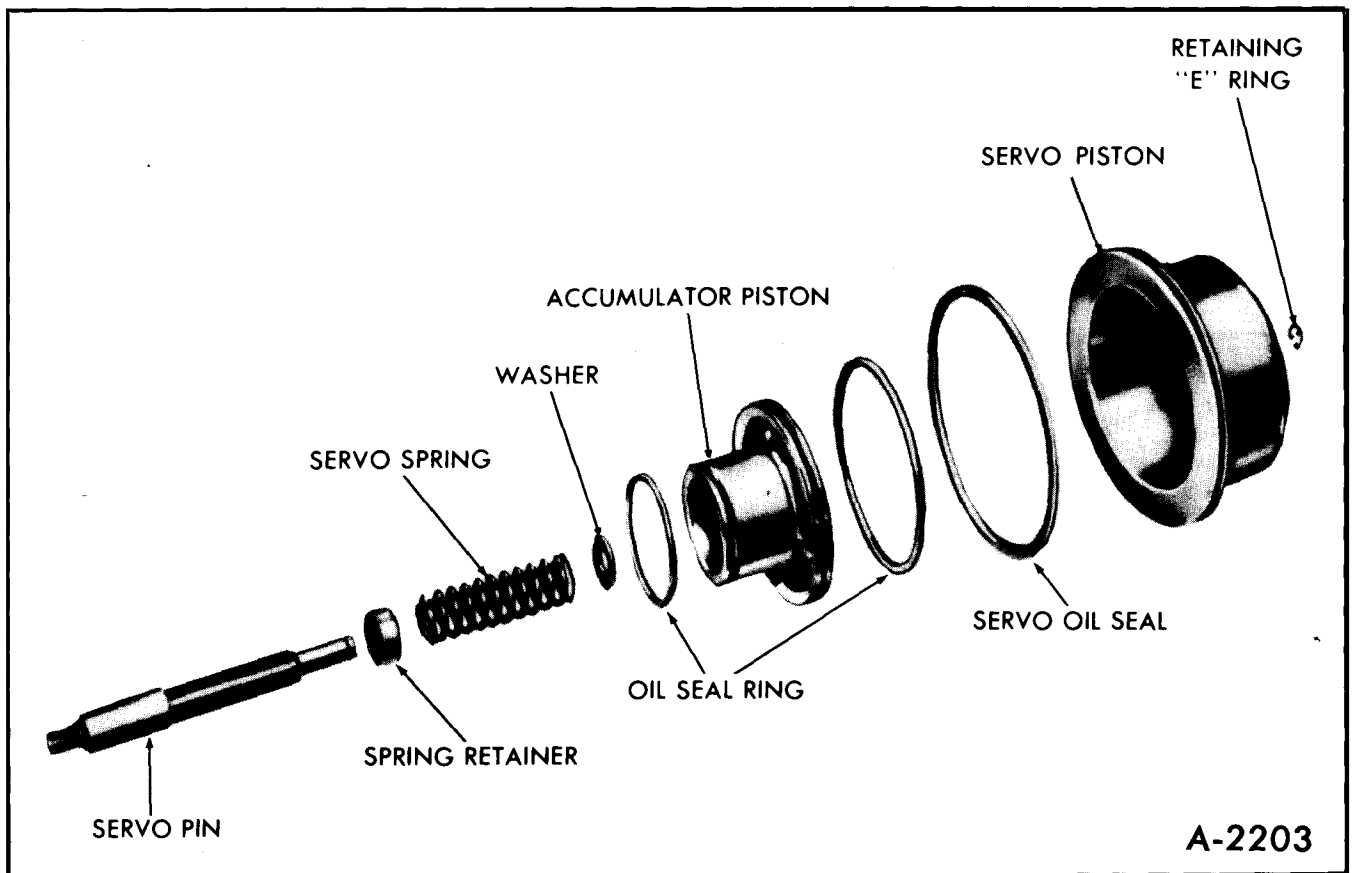

Figure 94—Rear Servo and Accumulator
**DISASSEMBLE REAR SERVO ASSEMBLY (FIGURE 94)**